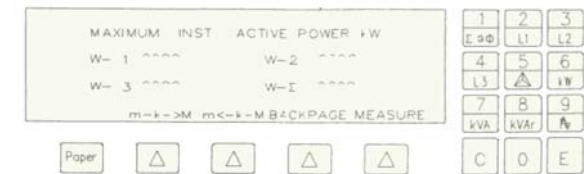

Fig. 3.32
- Once this has been specified (by pressing [1] or [2] ), the display will show a page similar to that in Fig.3.32; this is used to choose between three phase active power (W-Σ) or the power of one of the three phases. The alarm value is also set, with its unit of measurement (kW) indicated in the top right hand corner, with the arrow beside it.